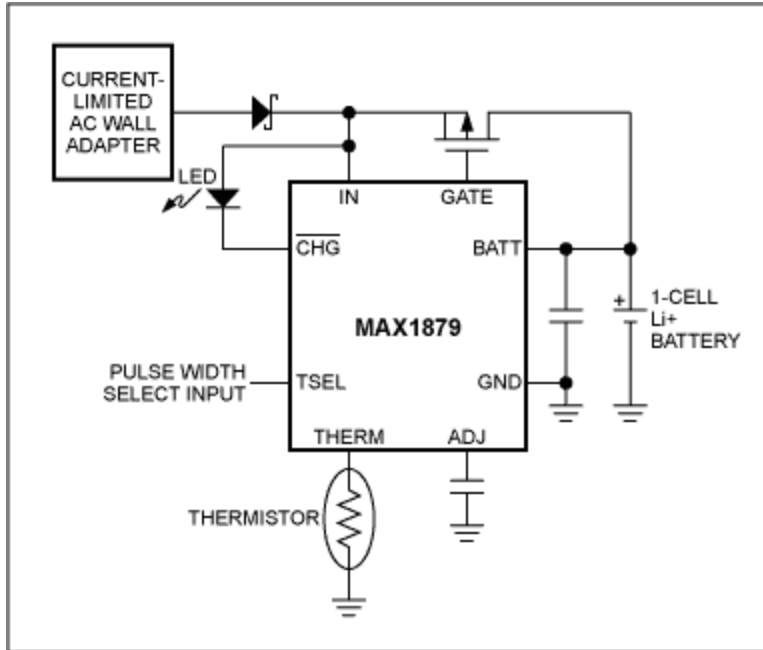

Figure 3. Li+ charger with the MAX1879.
- Few external components, no inductor needed (see **Figure 3**)